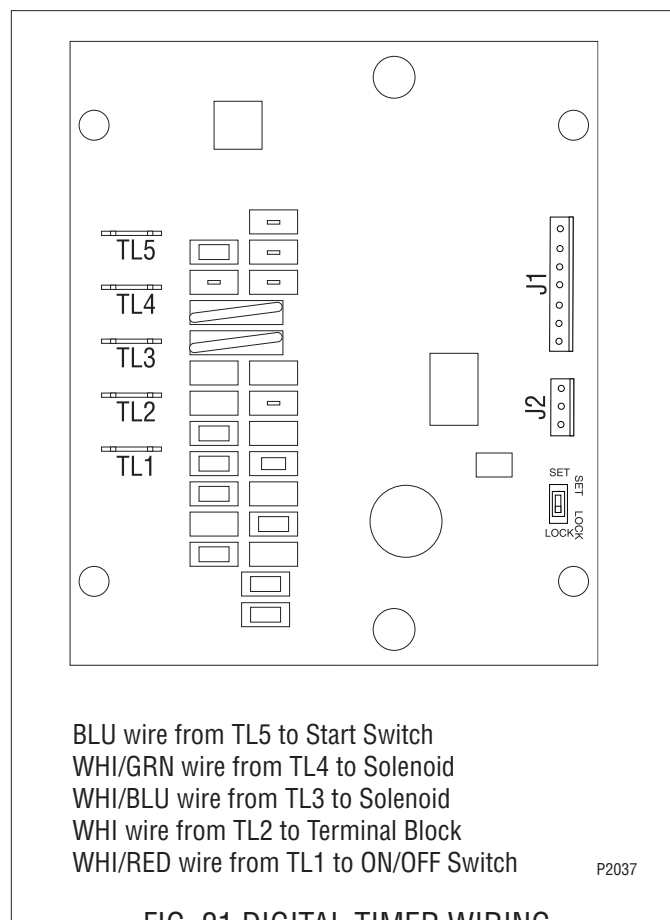

FIG. 21 DIGITAL TIMER WIRING
4. Attach all wires to the replacement timer board prior to installation to the component mounting bracket. Refer to FIG. 21 when reconnecting the wires.